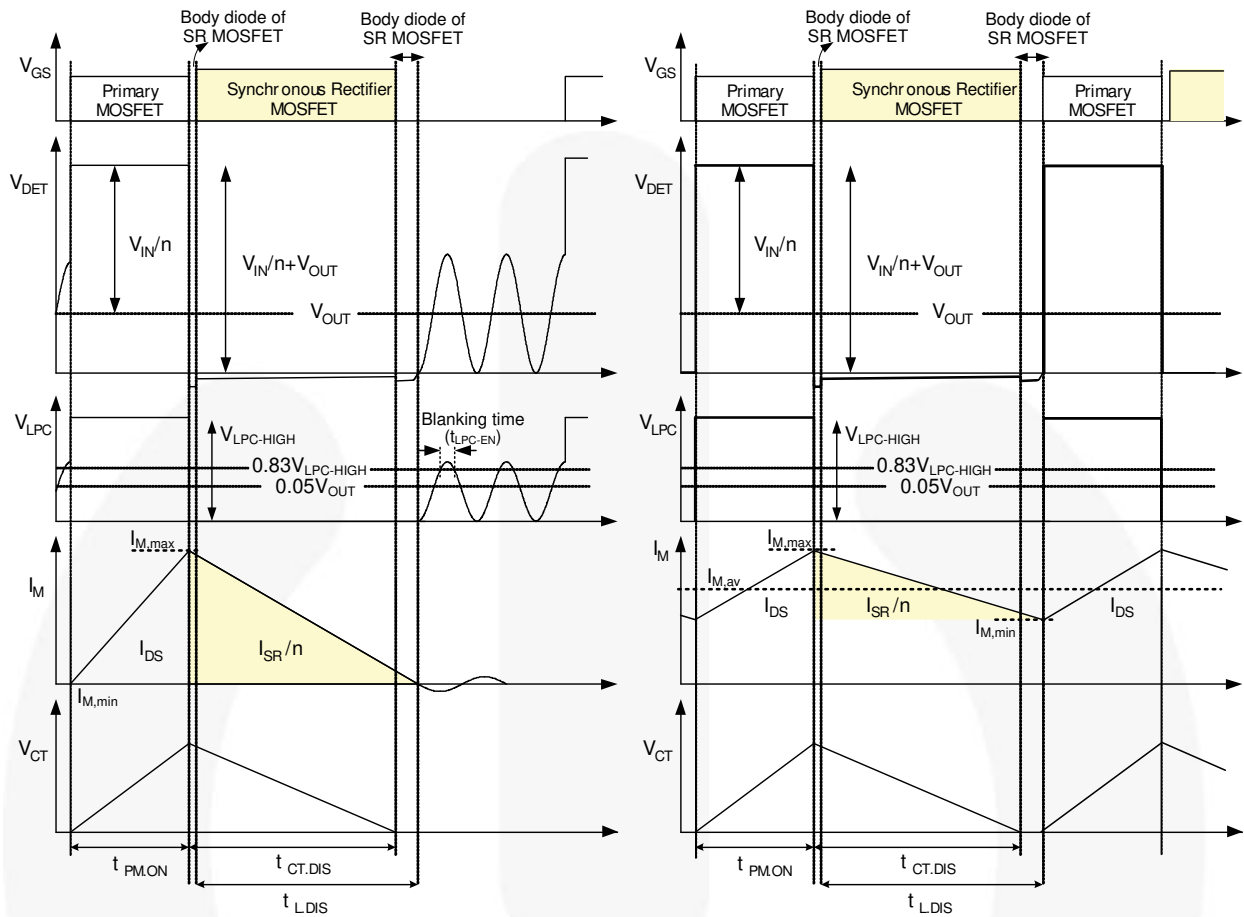
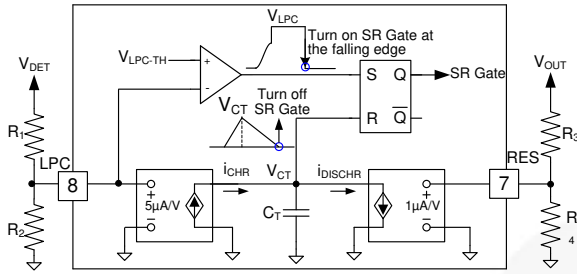

Figure 18. Typical Waveforms of Linear-Predict Timing Control in CCM and DCM/QR Flyback
Figure 19. Simplified Linear-Predict Block
The SR MOSFET turn-off timing is determined by linear-predict timing control and the operation principle is based on the volt-second balance theorem. The volt-second balance theorem states that the inductor average voltage is zero during a switching period in steady state, so the charge voltage and charge time product is equal to the discharge voltage and discharge time product. In flyback converters, the charge voltage on the magnetizing inductor is input voltage (V_{IN}), while the discharge voltage is nV_{OUT} , as the typical waveforms show in Figure 18. The following equation can be drawn:
FAN6204 uses the LPC and RES pins with two sets of voltage dividers to sense DET voltage (V_{DET}) and output voltage (V_{OUT}), respectively; so V_{IN}/n , $t_{PM,ON}$, and V_{OUT} can be obtained. As a result, $t_{L,DIS}$, which is the on-time of SR MOSFET, can be predicted by Equation (1). As shown in Figure 18, the SR MOSFET is turned on when the SR MOSFET body diode starts conducting and DET voltage drops to zero. The SR MOSFET is turned off by linear-predict timing control.
The linear-predict timing-control circuit generates a replica (V_{CT}) of magnetizing current of flyback transformer using internal timing capacitor (C_T), as shown in Figure 19. Using the internal capacitor voltage, the inductor discharge time ($t_{L,DIS}$) can be detected indirectly, as shown in Figure 18. When C_T is discharged to zero, the SR controller turns off the SR MOSFET.
Referring to Figure 18; when LPC voltage is higher than $V_{LPC.EN}$ over a blanking time ($t_{LPC.EN}$) and lower than $V_{LPC.TH-HIGH}$ ($0.05 V_{OUT}$), then SR MOSFET can be triggered. Therefore, $V_{LPC.EN}$ must be larger than $V_{LPC.TH-HIGH}$ or the SR MOSFET cannot be turned on. When designing the voltage divider of LPC, R_1 and R_2 should be considered as:
The typical waveforms of CCM operation in steady state are shown as Figure 18. When the primary-side MOSFET is turned on, the energy is stored in L_m . During the on-time of the primary-side MOSFET ($t_{PM.ON}$), the magnetizing current (I_M) increases linearly from $I_{M,min}$ to $I_{M,max}$. Meanwhile, internal timing capacitor (C_T) is charged by current source ($i_{CHR} - i_{DISCHR}$) proportional to V_{IN} , so V_{CT} also increases linearly.
In DCM / QR operation, when primary-side MOSFET is turned off, the energy stored in L_m is fully released to the output at the turn-off timing of primary-side MOSFET. Therefore, the DET voltage continues resonating until the primary-side MOSFET is turned on, as depicted in Figure 18. While DET voltage is resonating, DET voltage and LPC voltage drop to zero by resonance, which can trigger the turn-on of the SR MOSFET. To prevent fault triggering of the SR MOSFET in DCM operation, blanking time is introduced to LPC voltage. The SR MOSFET is not turned on even when LPC voltage drops below $0.05 V_{OUT}$ unless LPC voltage stays above $0.83 V_{LPC-HIGH}$ longer than the blanking time ($t_{LPC.EN}$). The turn-on timing of the SR MOSFET is inhibited by gate inhibit time ($t_{INHIBIT}$), once the SR MOSFET turns off, to prevent fault triggering.